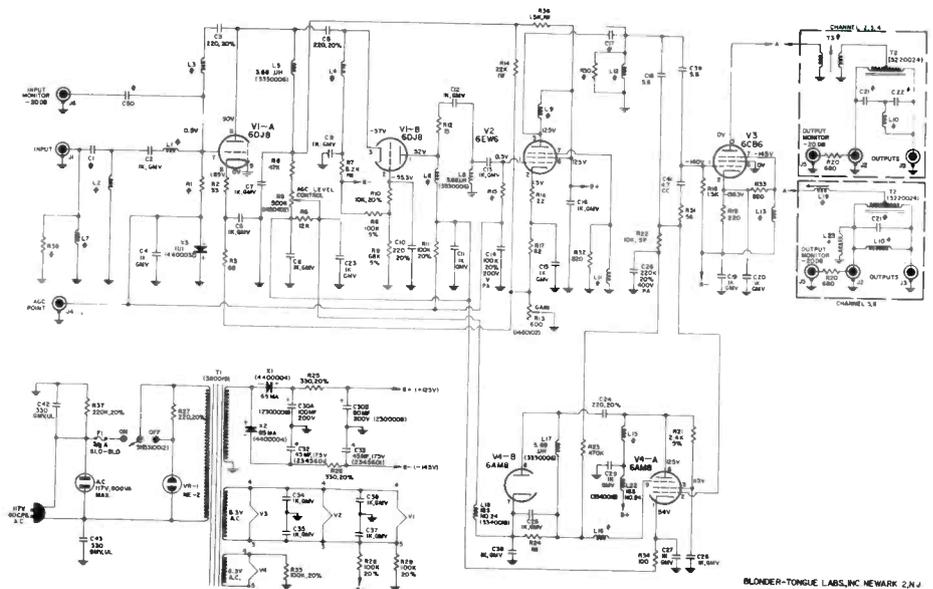

Figure 5
Step 1 (See schematic, Figure 5)
### Trouble Shooting (See Figure 5)